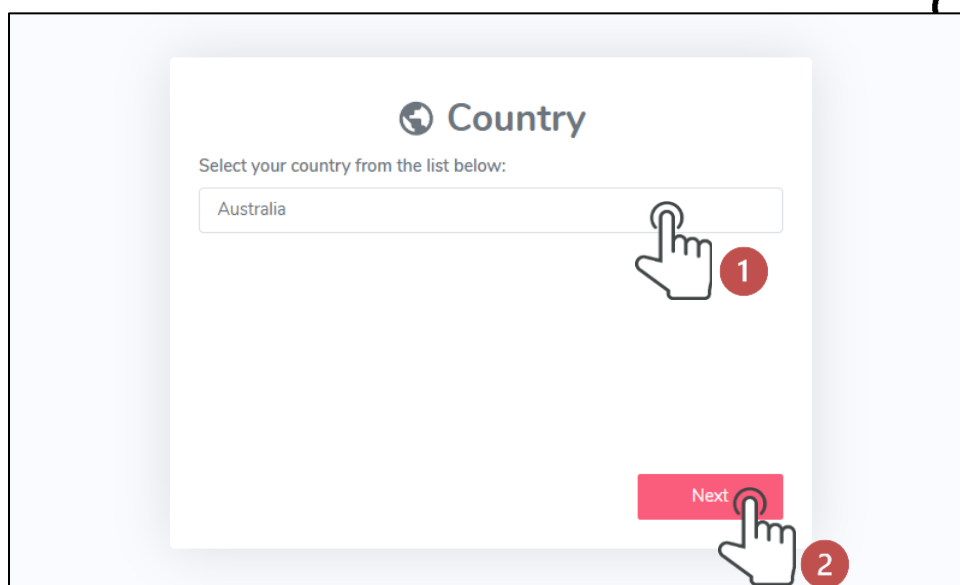

Figure 2
2. From the Welcome screen tap on the 'Next' button, then select Country (Figure 2).